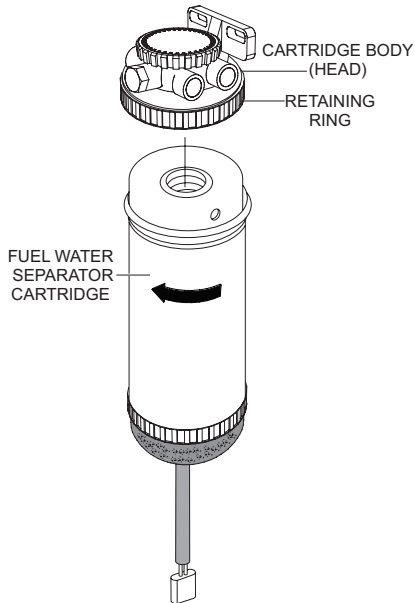

Figure 64. Fuel Water Separator
1. Use a filter wrench to remove the fuel water separator cartridge (Figure 64) from the cartridge body head.